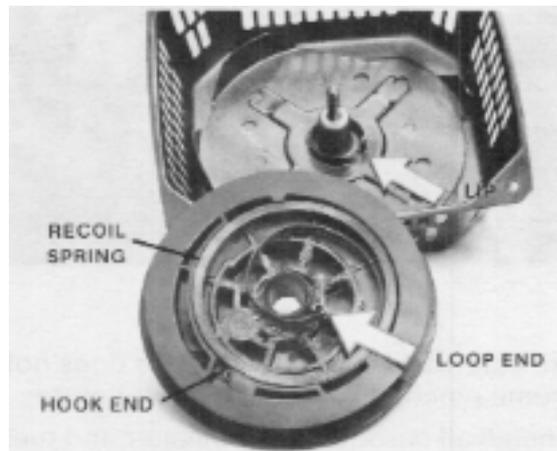

Figure 3-37
- Turn the pulley over and examine the condition of the recoil spring. It should be retained in the pulley as seen in Fig. 3-37. On reassembly, the loop end of the spring must be caught on the lip of the hub in the recoil assembly.
5. The spring should be installed in the pulley as shown in Fig. 3-37.
6. If the spring has expanded outside the pulley, it can be reinstalled by first placing the hook end into the pulley. See Fig. 3-37.